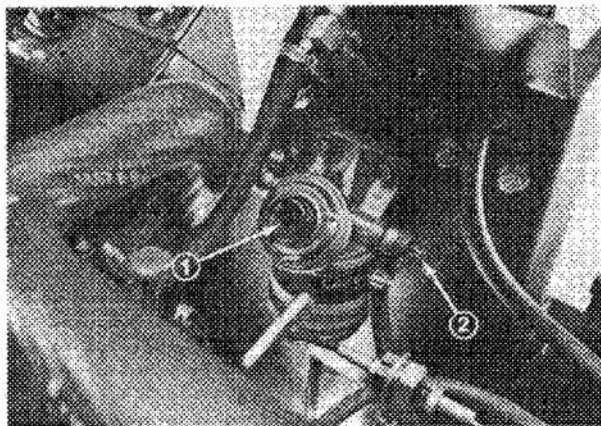

Figure 24
PRIMING FUEL SYSTEM (Fig. 24 & 25)
4. Loosen fuel filter / water separator bleed screw (Fig. 24) a few turns. Pump priming plunger until a steady stream of fuel comes out of hole in bleed screw. When fuel stops foaming, tighten the bleed screw during the downstroke of the priming plunger. Wipe up any spilled fuel.